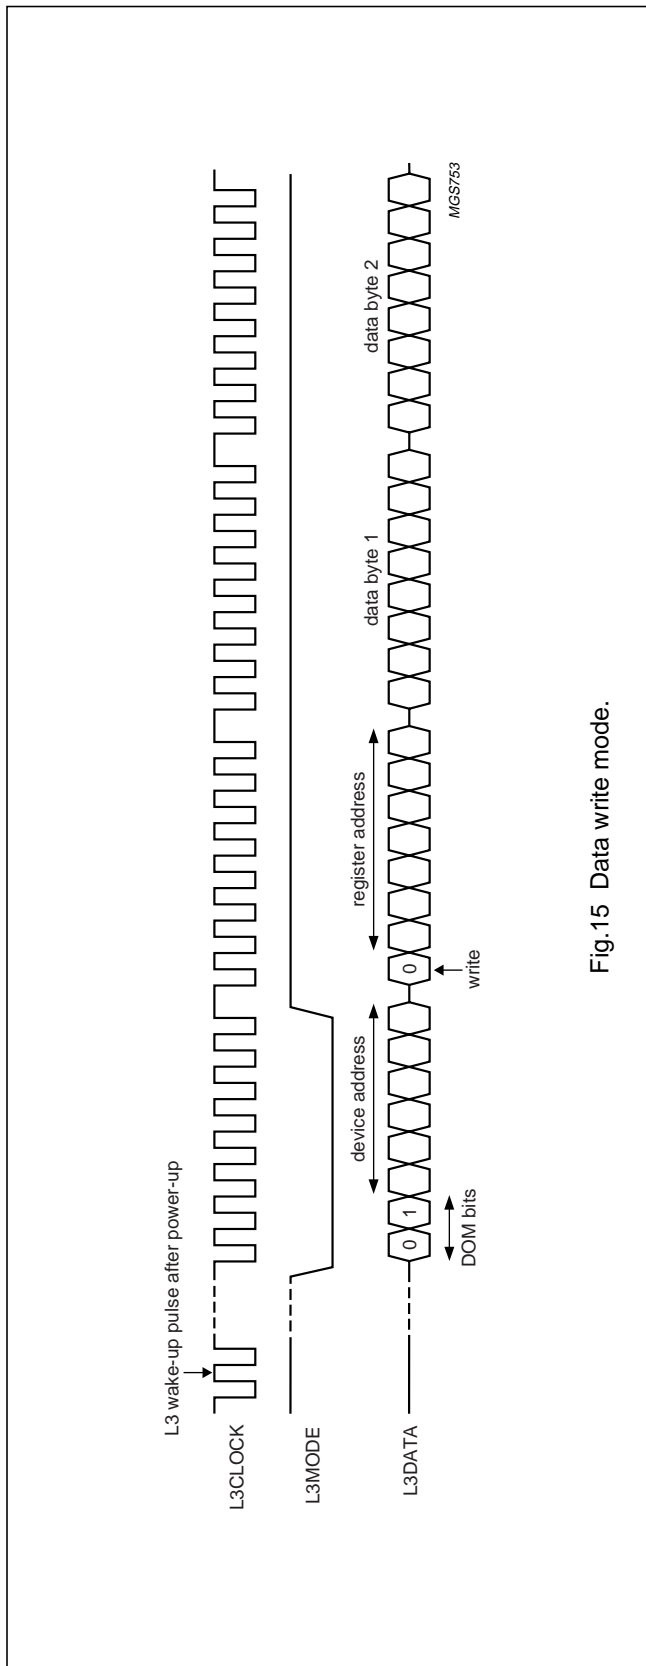

Fig.15 Data write mode.
The address mode is used to select a device for a subsequent data transfer. The address mode is characterized by L3MODE being LOW and a burst of 8 pulses on L3CLOCK, accompanied by 8 bits (see Fig.15). The data transfer mode is characterized by L3MODE being HIGH and is used to transfer one or more bytes representing a register address, instruction or data.
- Addressing for write data: bit 0 is logic 0 indicating a write action to the destination register, followed by bits 1 to 7 indicating the register address (see Fig.15)
The data write mode is explained in the signal diagram of Fig.15.